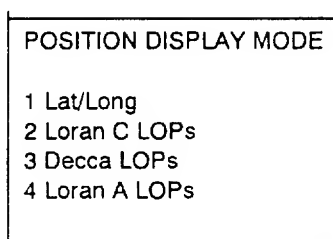

Figure 1-36 POSITION DISPLAY MODE menu
- 1) Press **MENU, 9, 1, 2** and **8**. Your display should look like Figure 1-36.